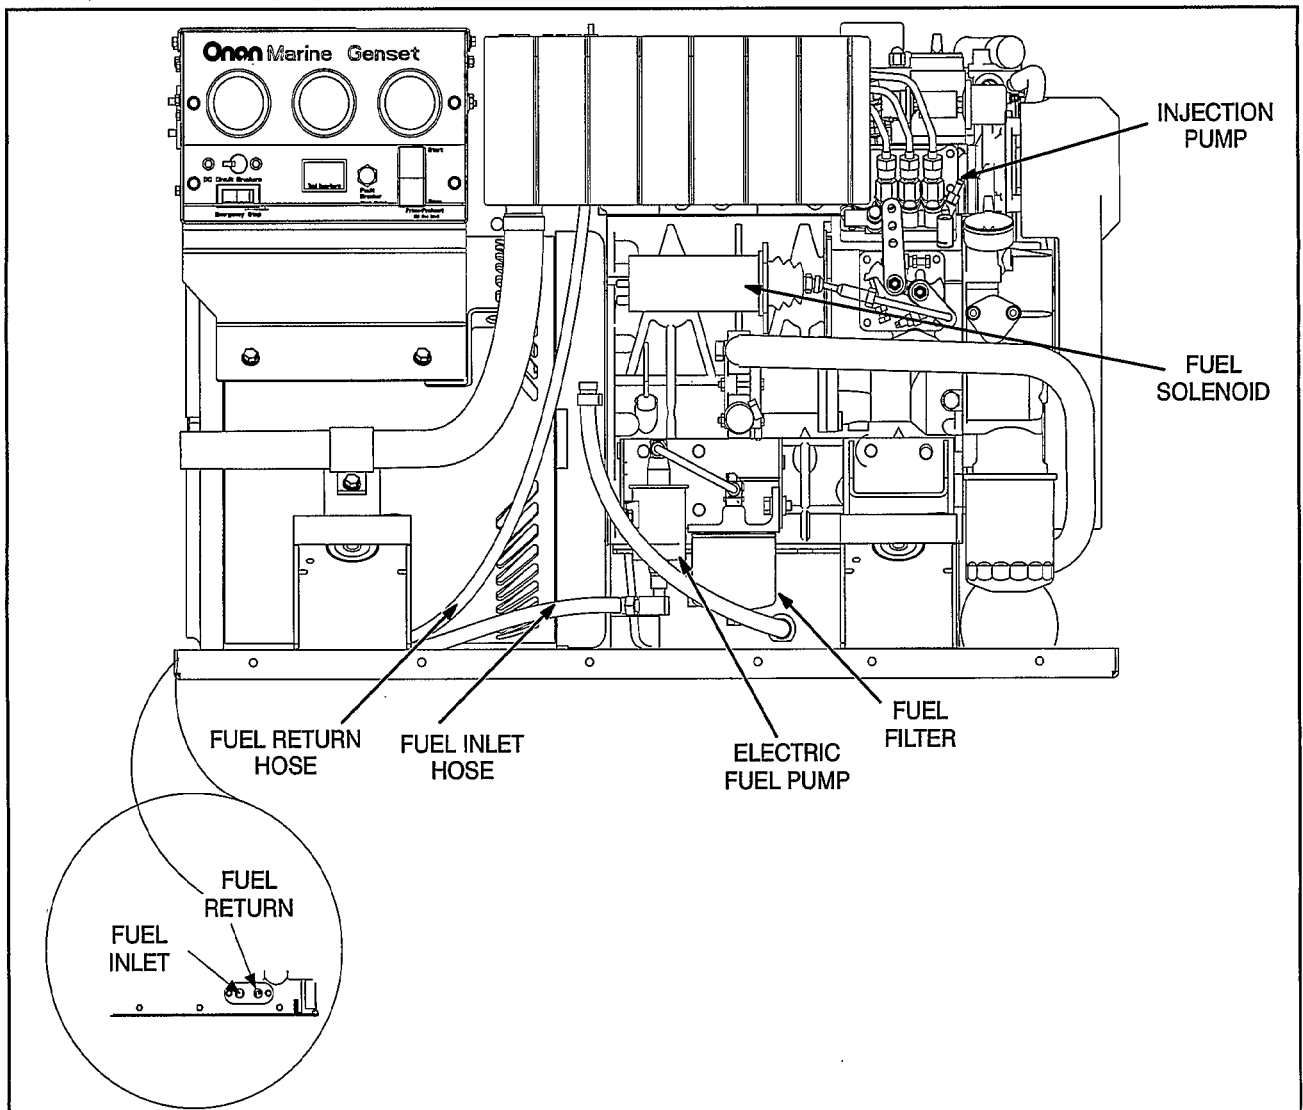

FIGURE 9. ENGINE FUEL SYSTEM COMPONENTS
1. Open the drain plug on the fuel filter assembly (Figure 9). Collect water and fuel in a suitable container and dispose of it properly.
1. Loosen the filter drain plug. Collect fuel in a suitable container and dispose of properly. See Figure 9.